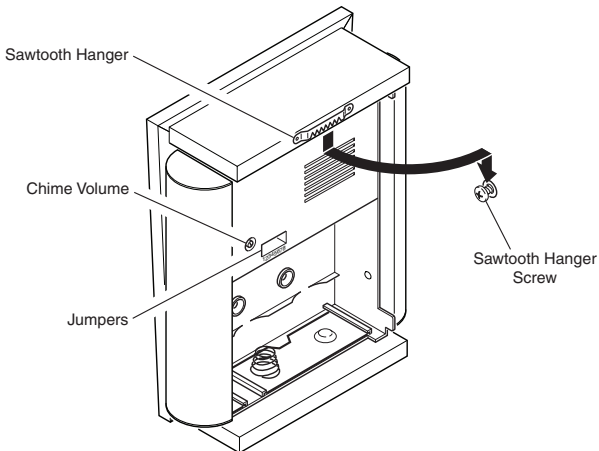

Figure 4
3. Place hanger over screw to mount chime (see Figure 4).